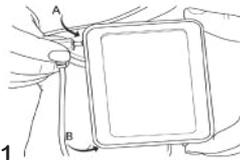

Figure 1
- Plug the small charging cord that leads from the charger into the Power Pack. (Figure 1 B)